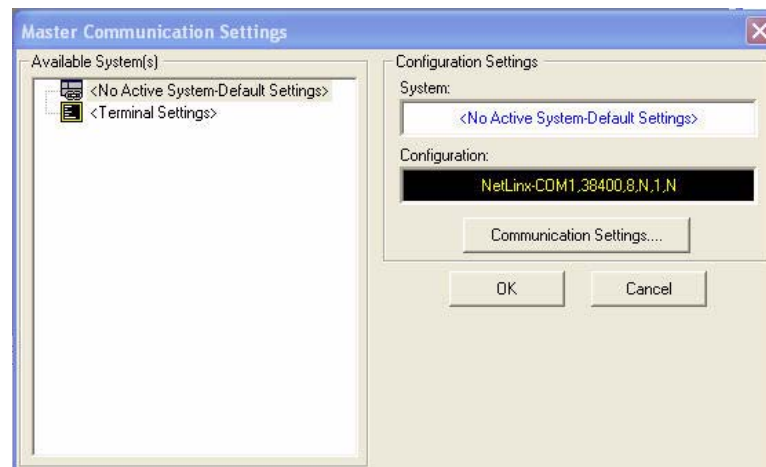

FIG. 35 Master Communications Settings dialog
2. In NetLinx Studio, select **Settings > Master Communication Settings**, from the Main menu to open the *Master Communication Settings* dialog (FIG. 35).